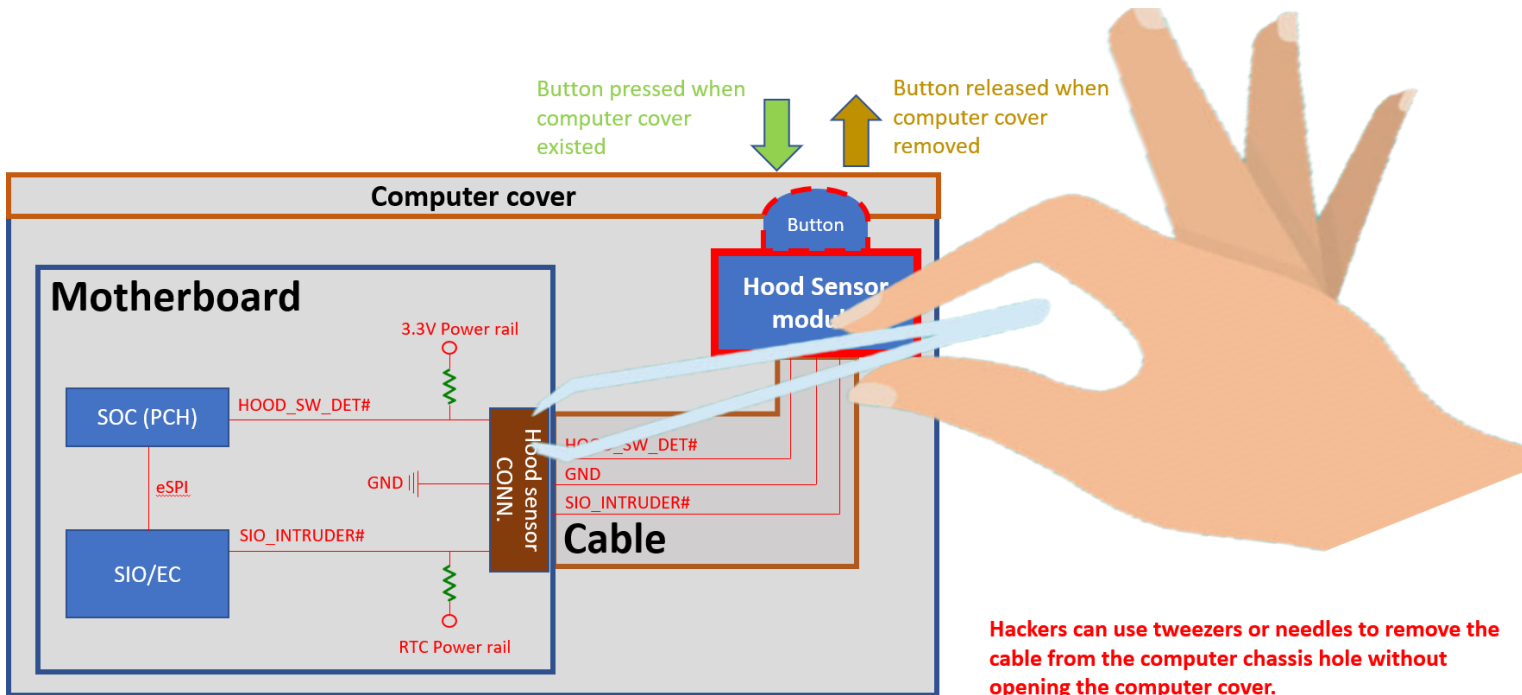

Fig. 2 Security Risk of The Current Hood Sensor Protection Mechanism
- **Current mechanism under the risk (Fig. 2 / Flow chart 1 & 3 / Table 1)**